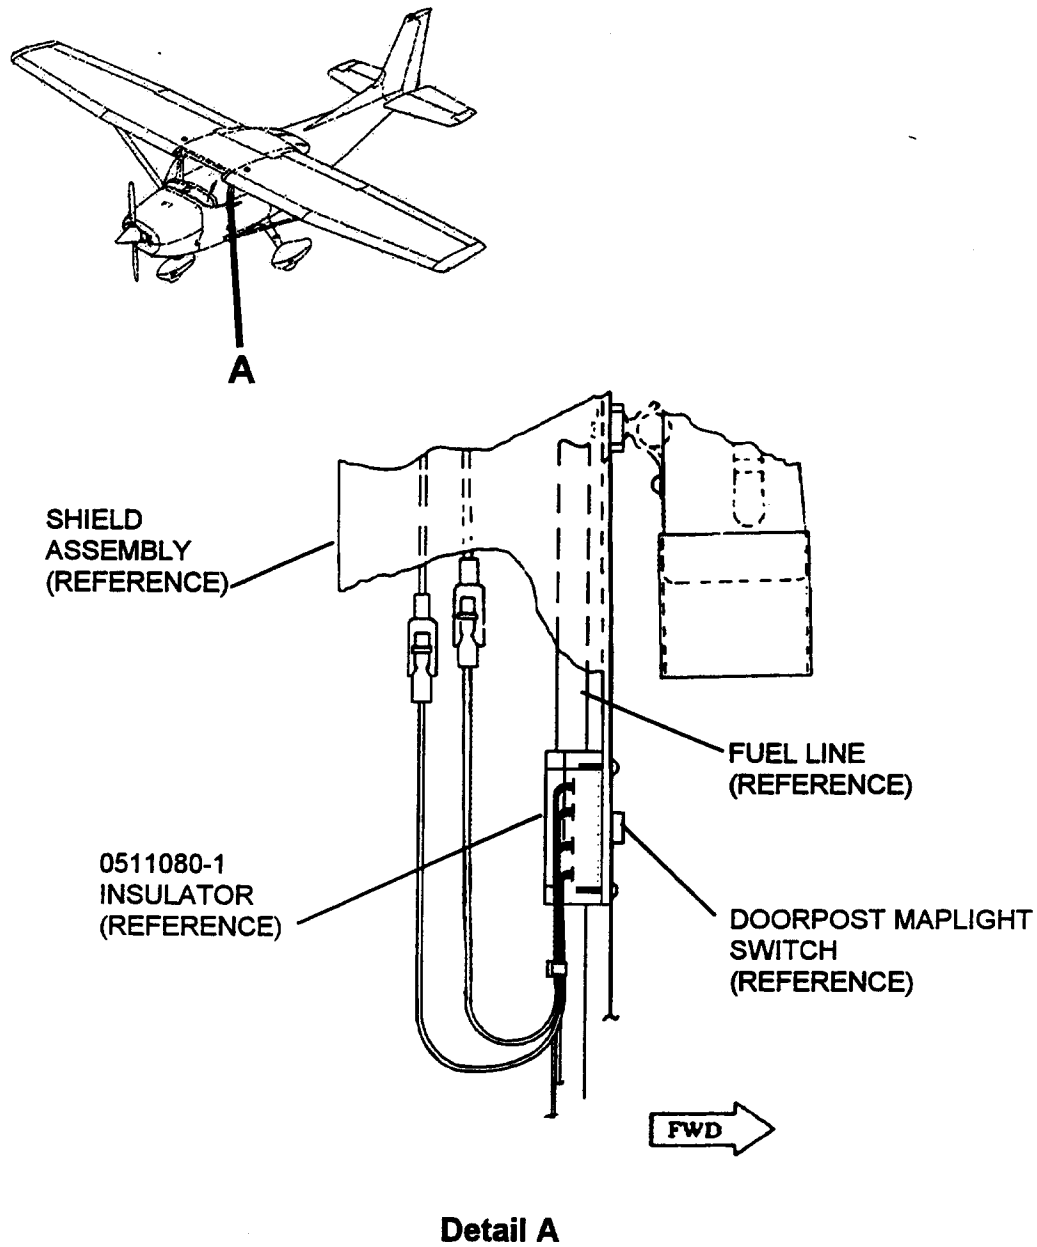

Figure 1. Doorpost Maplight Switch Insulator
- A. (Refer to Figure 1.) Remove Shield Assembly from left forward doorpost far enough to gain access to switch assembly.
- B. (Refer to Figure 1.) Verify presence and condition of 0511080-1 Insulator attached to Doorpost Maplight Switch as shown.
- (1) If 0511080-1 Insulator is not installed or if it is damaged in any way, install a new 0511080-1 Insulator as follows:
- b. Secure switch assembly and insulator to shield assembly with screws and nuts. Proceed to step B. (3).
- (2) If the 0511080-1 Insulator is installed and in good condition, proceed to step B. (3).
- (3) If fuel lined is damaged in any way, replace fuel line.